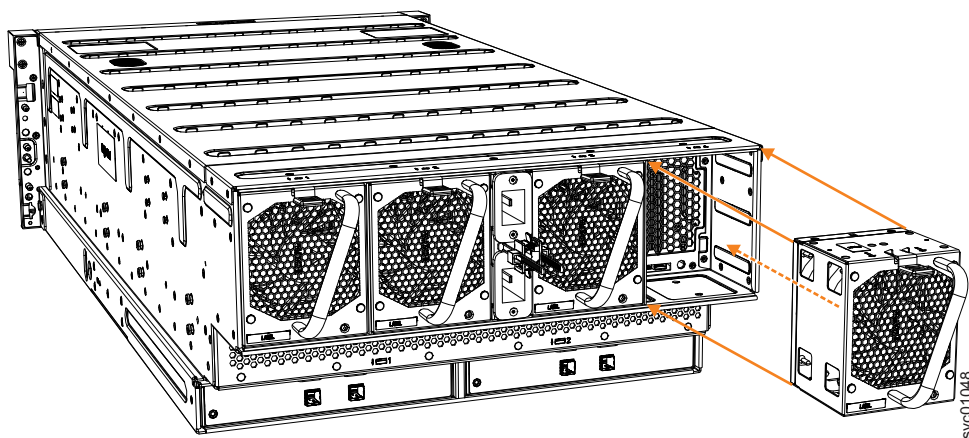

Figure 119. Remove fan module
3. Use the handle to pull the fan module out of the expansion enclosure chassis, as shown in Figure 119 on page 125.